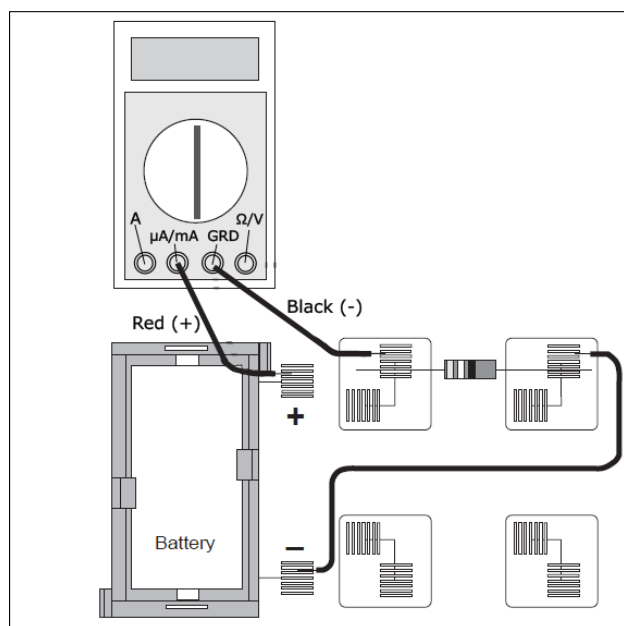

Figure 3.1a
2. Construct the circuit shown in Figure 3.1a by pressing the leads of the resistor into two of the springs in the Experimental Section on the Electronics Lab Board.